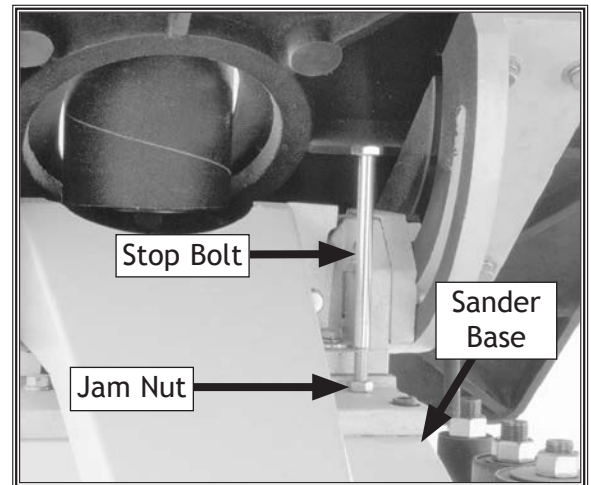

Figure 13. Location of table stop bolt.
2. Thread $\frac{3}{8}$ "-16 x $6\frac{1}{2}$ " stop bolt and jam nut into sander base, as shown in **Figure 13**.